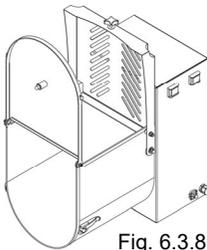

Fig. 6.3.8
- The surface is now smooth and easy to clean Fig. 6.3.8. Thoroughly clean the machine and sanitise if necessary.